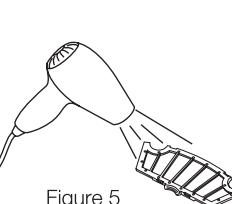

Figure 4
4. Pop up the blower, take out the filter, and then clean the Dust Bin in water. (Refer to Figure 4)